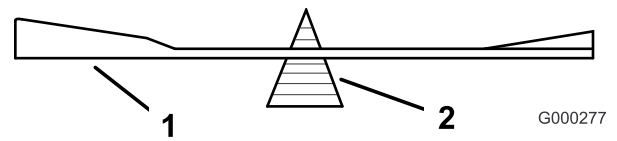

Figure 59
2. Check the balance of the blade by putting it on a blade balancer (Figure 59). If the blade stays in a horizontal position, the blade is balanced and can be used. If the blade is not balanced, file some metal off the end of the sail area only (Figure 56). Repeat this procedure until the blade is balanced.